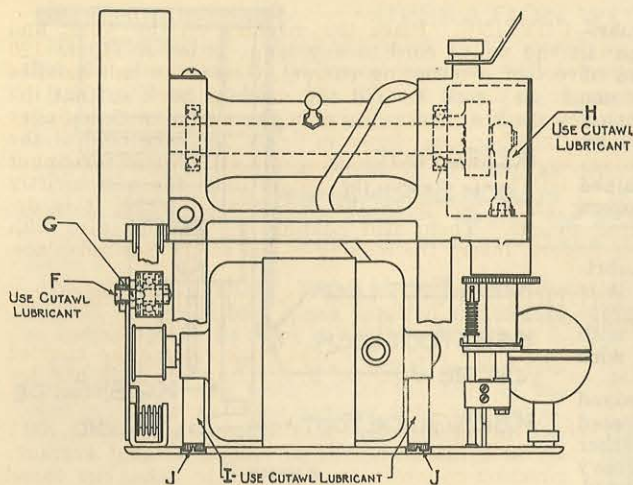

Figure 5
well lubricated. Figure 5 shows the points on the Cutawl which require lubrication. Use Cutawl Lubricant provided with each machine in all places.
**MOTOR.** The motor is lubricated from two grease cups I, see figure 5, one at each end of the shaft, which extend down into the base plate. These should be kept full and are reached by removing the slotted caps J.